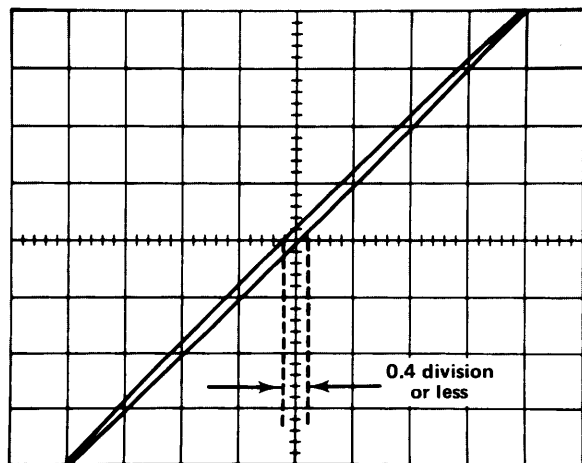

Fig. 5-34. Typical CRT display when checking X-Y phasing.
e. CHECK—CRT display for an opening at the center horizontal line of 0.4 division or less (see Fig. 5-34).